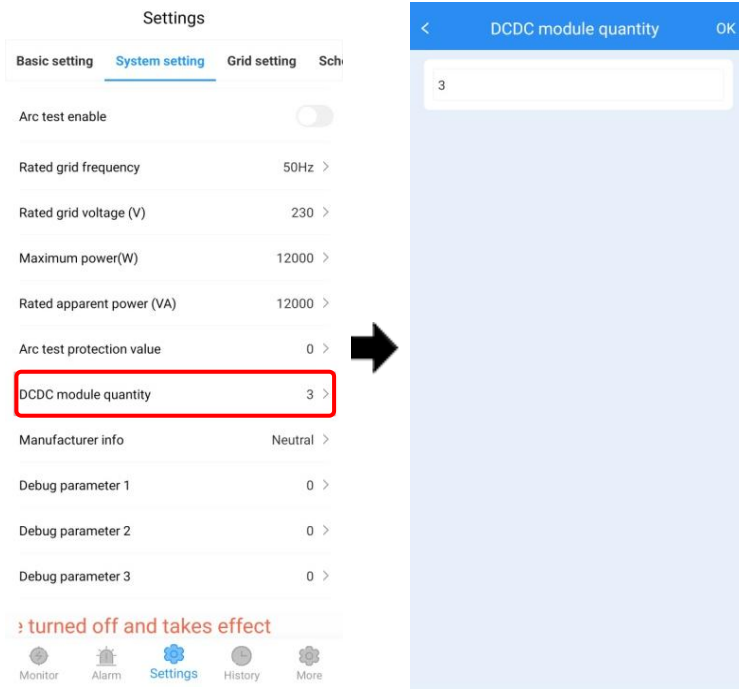

Figure4-22 Set DCDC module quantity
Step 1 Set the quantity of DCDC module in "**Settings-System setting**" page, as shown in Figure4-22.